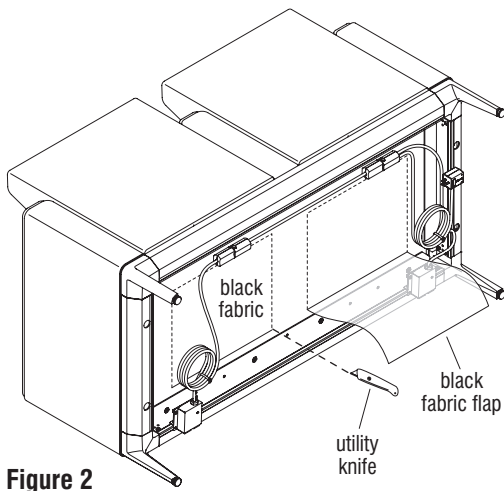

Figure 2
3. To gain access to the bolts securing the arm to the seating unit frame, use a utility knife to cut three sides of a rectangle in the black fabric on the bottom of the lounge unit to make a flap near the arms that are next to the lounge seat to be replaced. If the seat is next to a middle lounge arm, cut three sides of a rectangle in the black fabric to make a flap on both sides of the middle arm. Let the fabric drape down so it does not interfere with removing the bolts in the next step (Figure 2).